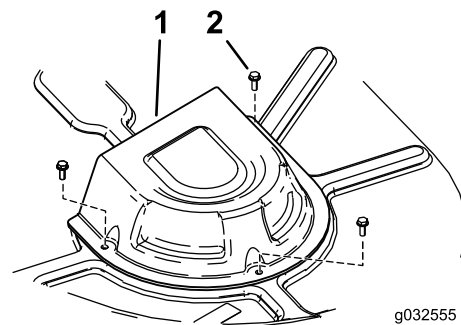

Figure 57
4. Remove the pulley covers (Figure 57).